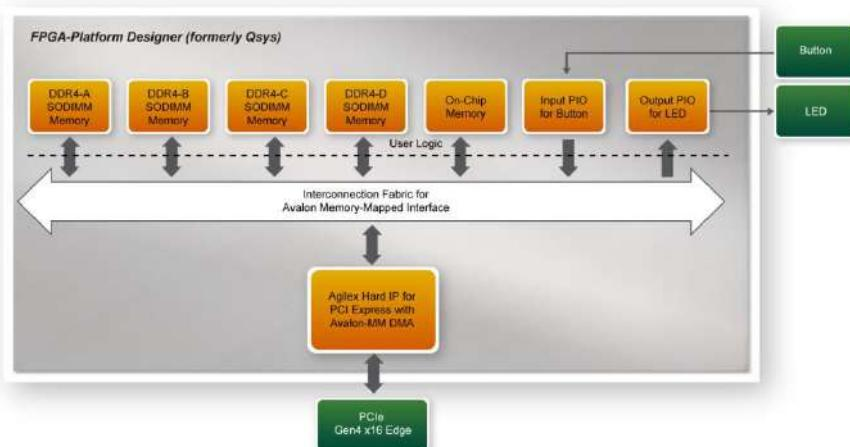

Figure 7-23 Hardware block diagram of the PCIe-DDR4 reference design
**Figure 7-23** shows the system block diagram in the FPGA system. In the **Platform Designer** (formerly Qsys), the PIO controller is used to control the LED and monitor the Button Status, and the On-Chip memory is used for performing DMA testing. The PIO controllers and the On-Chip memory are connected to the PCI Express Hard IP